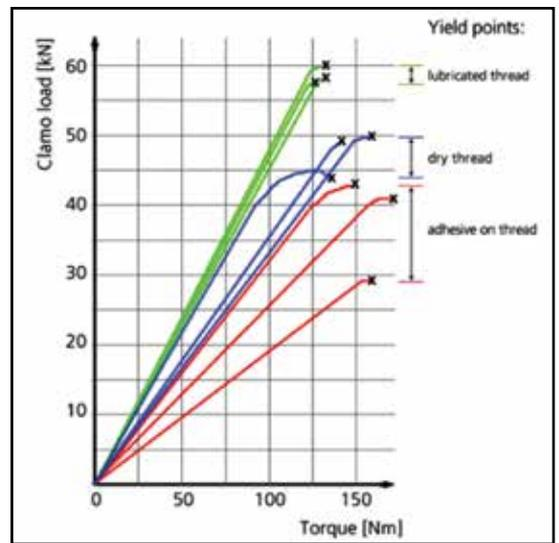

Figure 1: Example of a torque-load diagram for M12 bolts (8.8).
**Figure 1: Potential failure modes which can occur due to transient loads — (top) surface-initiated bearing pitting, (middle) gear tooth failure and (bottom) fretting fatigue on**
Applying an adhesive significantly increases thread friction during tightening. The red graphs (Fig. 1) show tightening of bolts with adhesive on the threads. Due to increased thread friction and torsional stress, only half as much clamp load is obtained before reaching the yield points (marked with x). When tightening the same bolts lubricated, which is illustrated by the green graphs, almost twice as much clamp load is obtained. The diagram clearly shows why low (and uniform) friction during tightening is necessary to ensure that the bolts' full capacity can be used.